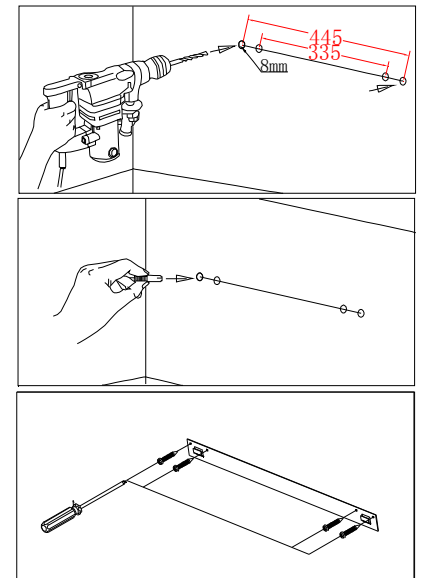

FIG. 4
5. Referring to Fig. 4, check the wall to ensure there is no wiring, pipe wires etc in the area to be drilled. Drill 4 holes (8mm diameter & 40mm depth) using a suitable size drill, put the wall plugs into the holes and fix hanger to wall.